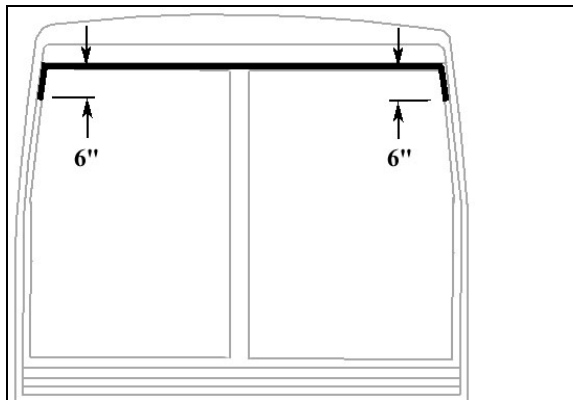

FIGURE 94: APPLICATION OF SIKA 221 BLACK
- Apply Sika 221 black (Figure 94) between fiberglass and rubber extrusion